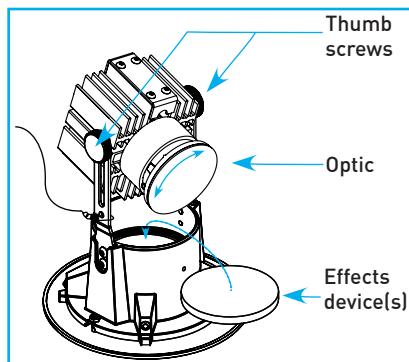

Fig.63
C. Detach LED Engine assembly by loosening and removing two knurled knob thumb screws. Save thumb screws **"Fig.63"**.
To change effects device, loosen thumb screws of fixture, then slide LED engine assembly up and swing out for access **"Fig.63"**.
B. To change optic, carefully grab and twist counter-clockwise to remove and clockwise to secure. Ensure that both feet of optic properly engage LED base **"Fig.63"**.